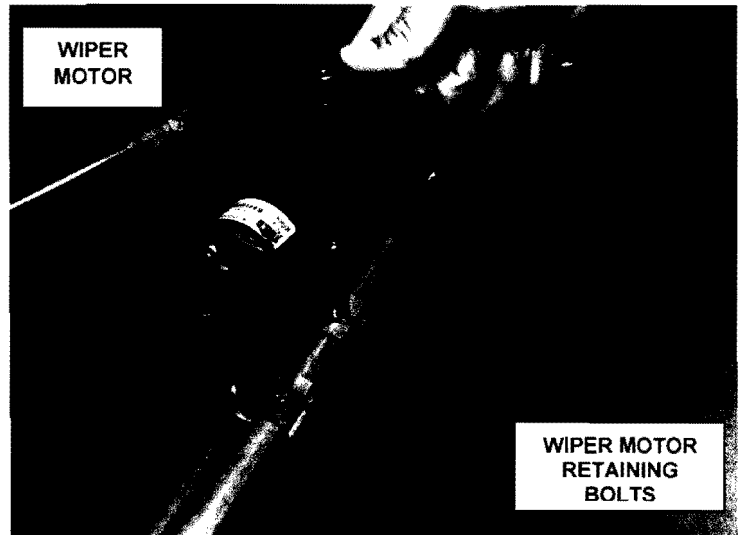

Figure 5 – Wiper Motor Retaining Bolts
- a. Remove the two wiper pivot arm assembly-to-wiper motor retaining bolts (Figure 5).